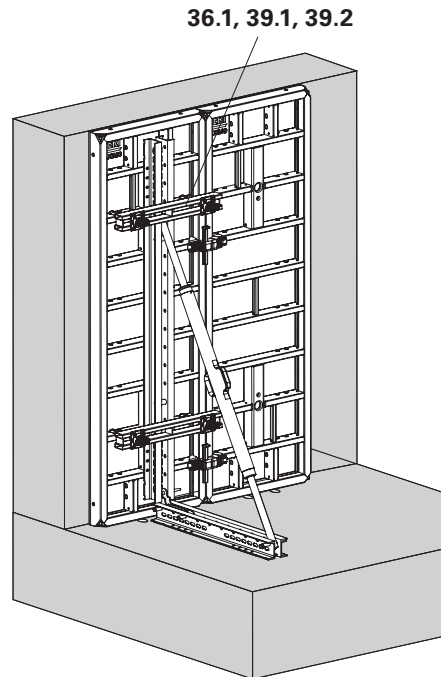

Fig. D4.01
3. Remove Waler 85 (36.1), Hook Tie DW 15 (39.1) and Wingnut Pivot Plate (39.2) (Fig. D4.01) or
- MAXIMO and Corner Connector SRU VARIOKIT. (Fig. D4.01 + D4.01a)